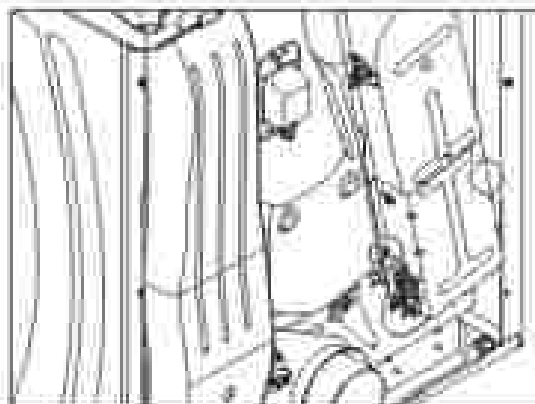

Figure 4
- c. Remove the two half-head screws from the heater assembly (see Figure 4) and remove the assembly (see Figure 5).